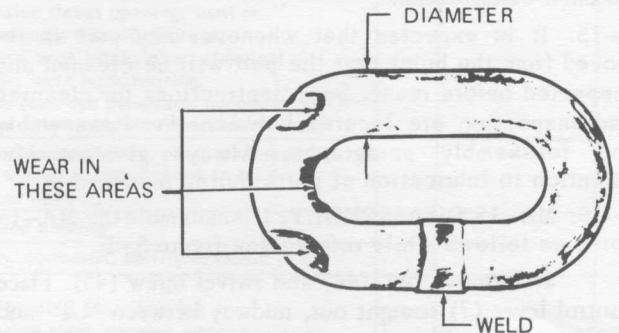

FIGURE 4-3. TYPICAL WEAR ON LINKS
b. Inspect each individual chain link for wear to diameter of the link. See figure 4-3. The nominal diameter of the link is 0.250 inch for the JL-19-B chain and 0.312 inch for the C-19-10 chain. If the diameter for any link of JL-19-B chain is less than 0.200 inch, replace the entire chain. If the diameter of any link of C-19-10 chain is less than 0.275 inch, replace the entire chain.